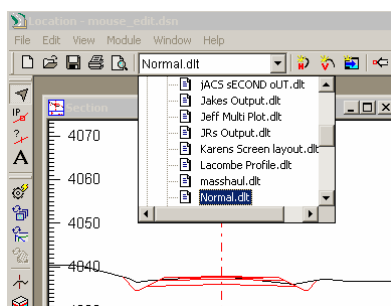

Figure 2.16: Selecting a Screen Layout From the Toolbar
3. Click in the screen layout pull down box (see Figure 2.16) in the Standard Tools toolbar and select **normal.DLT**.